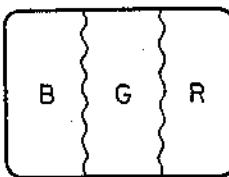

Fig. 4-4.
8. Adjust the purity magnet control to center the vertical green band on the screen as shown in Fig. 4-4.